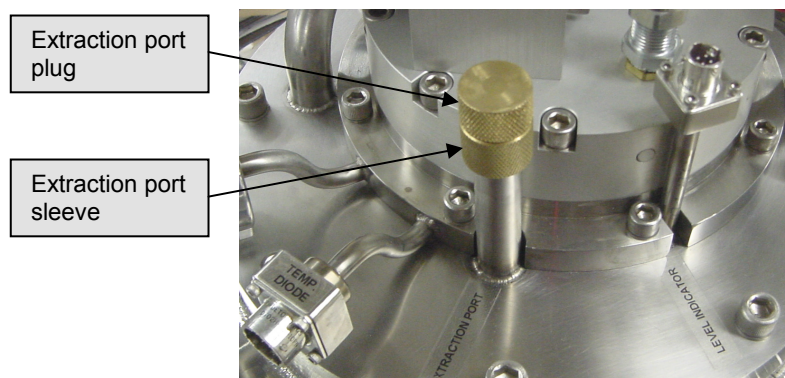

Figure 7-11c: Dewar extraction port
6. Insert the extraction port plug into the extraction port. **See Figure 7-11c.**